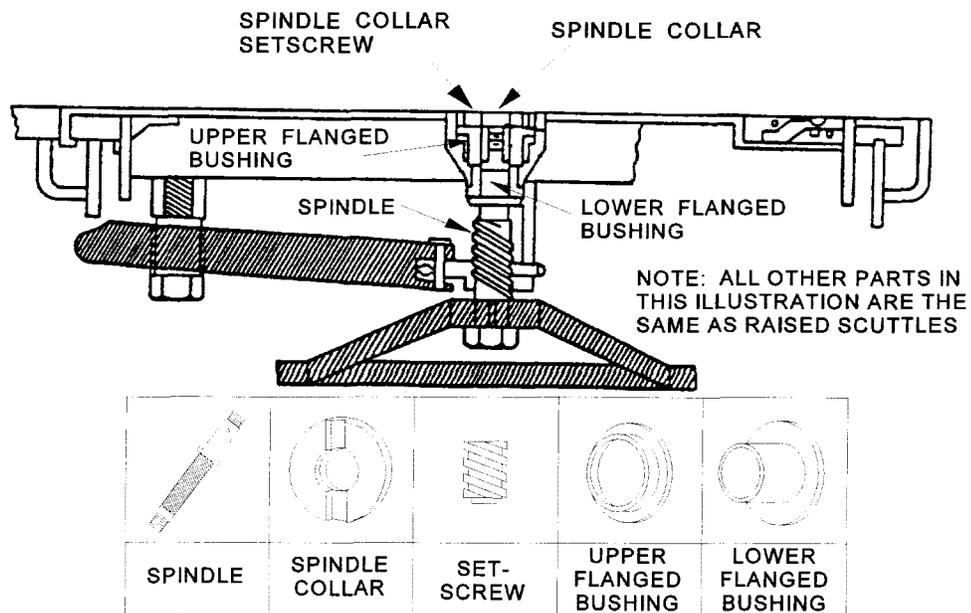

Figure 5-3. Flush Scuttle Components
- c. For flush scuttles, remove the spindle collar setscrew and unscrew the collar. See figure 5-3.
For flush scuttles, the lower flanged bushing is shaped differently than the upper bushing. See figure 5-3.